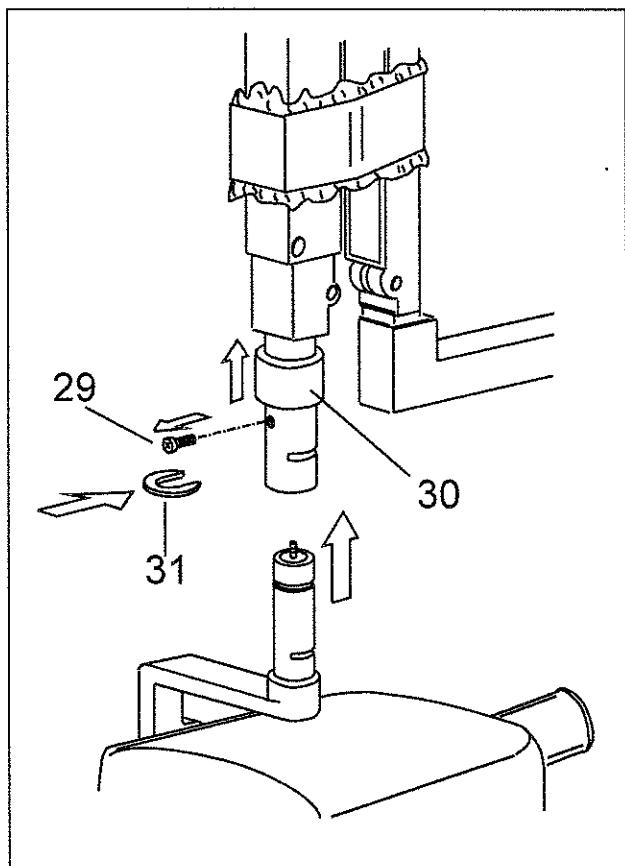
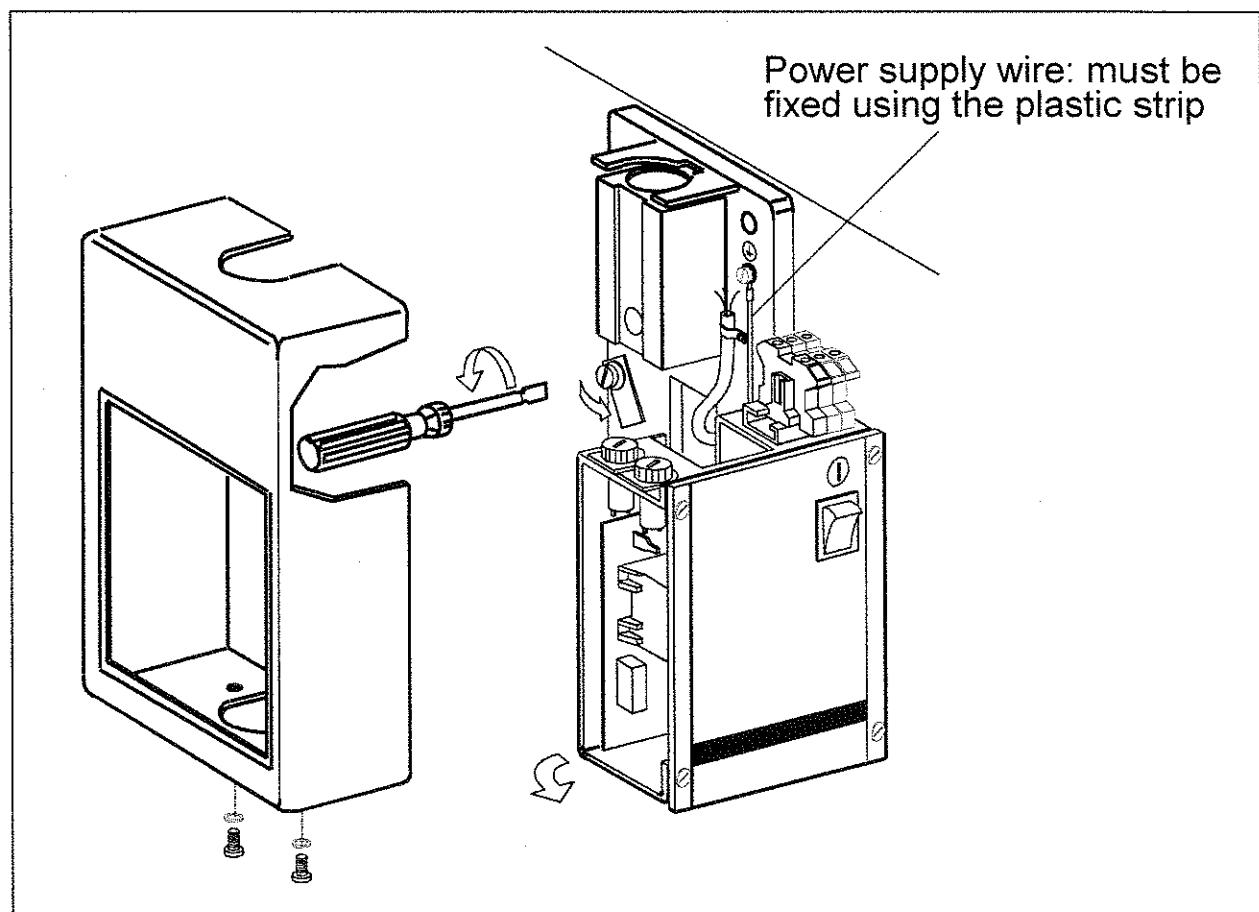

Figure 13 Tubehead mounting - 1
Figure 15 Electrical connection
- b) Turn out the safety screw "A" (Figure 15) and introduce Scissors Arm pivot into Extension Arm (Figure 13).
Reference to Figure 13, page 27
- a) Make sure that the line input wire(s) cannot touch the power supply board. To do this, it is mandatory to follow the cable path depicted on the Figure 15 on page 29 and to fix in the appropriate path using the enclosed plastic strip.
- b) Open the power assembly part loosing the screws of Figure 15 on page 28.